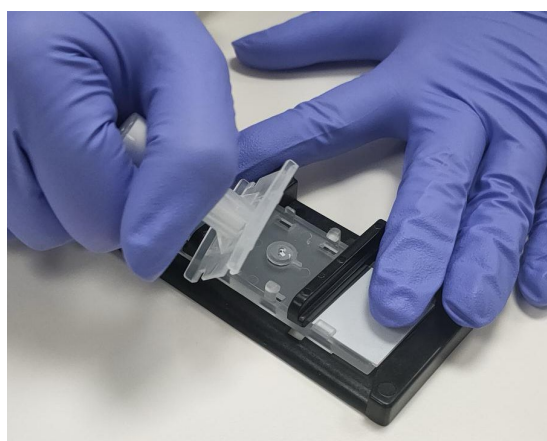

Figure 9a. Removing the funnel from the CellKeep slide.
- Remove the funnel from the CellKeep slide by anchoring the slide detacher with one hand and pulling the funnel with the other (Figures 9a, b).